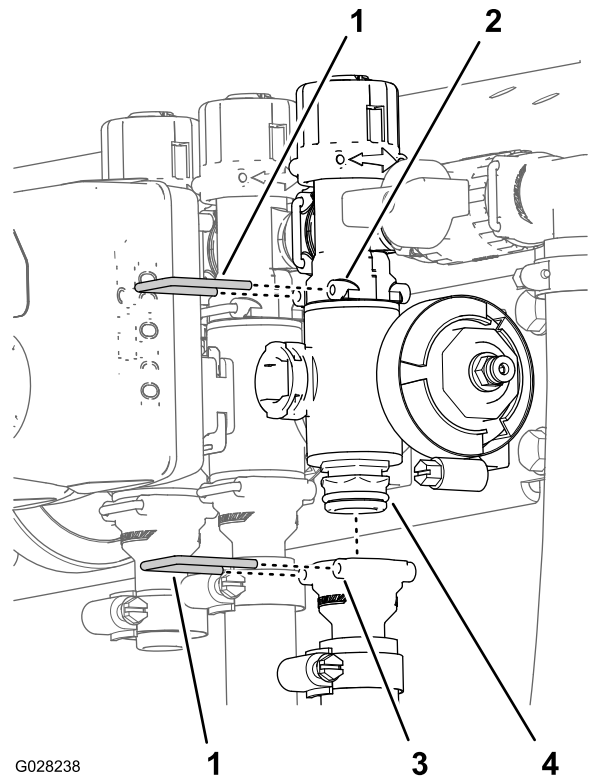

**Figure 136**
1. Remove clamps and gaskets that secure the manifold for the section valve (Figure 136) to the adjacent section valve (if left, section valve and reducer coupling).